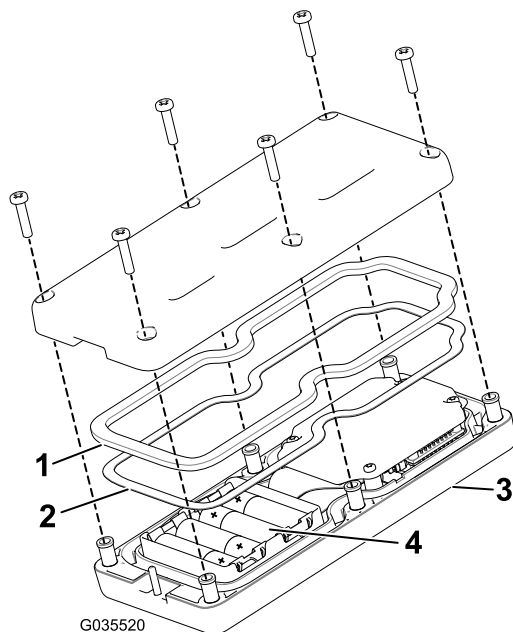

Figure 24
Note: If you install the batteries improperly, the unit is not damaged, but it fails to operate. The cradle is embossed with polarity markings for each terminal (Figure 24).
3. Ensure that the steel gasket and rubber seal are seated in the channel in the remote before you set the back cover in place (Figure 24).
4. Secure the cover with 6 screws (Figure 24) and torque them to 1.5 to 1.7 N·m (13 to 15 in-lb).